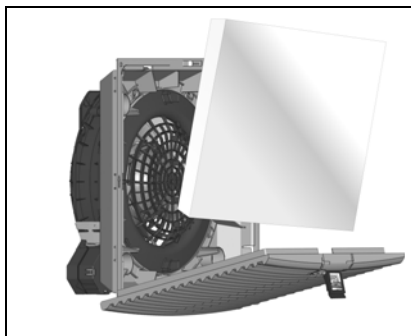

Fig. 7: Install the filter mat
- Insert the filter mat into the louvred grille as shown in Fig. 7 and push the louvred grille back onto the enclosure until it snaps audibly into position.